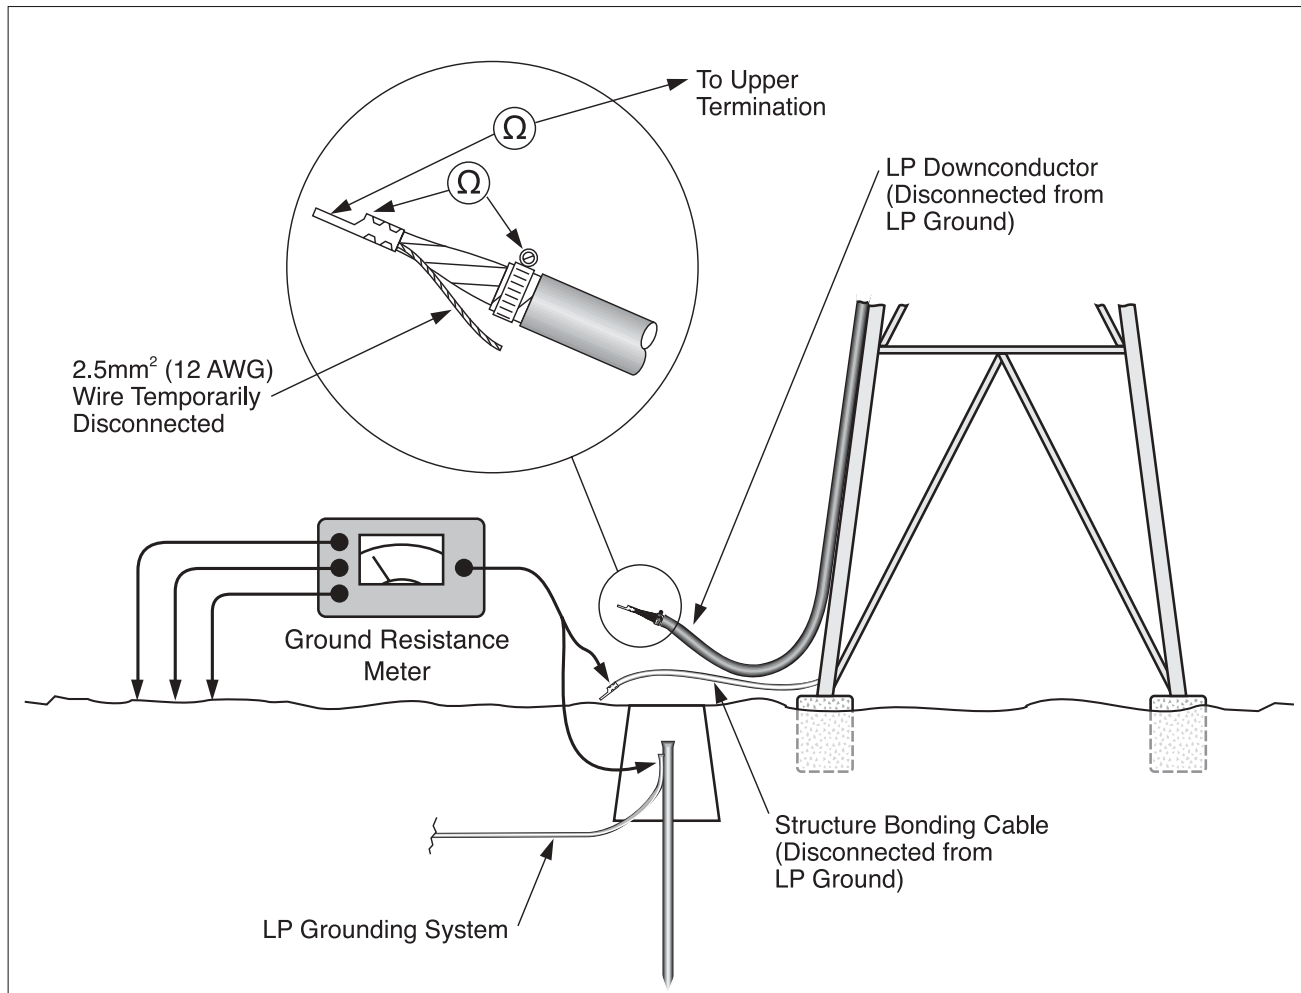

Figure 34: Grounding and downconductor continuity testing.
9. Record resistance and continuity measurements using figure 34 and the table on page 52.